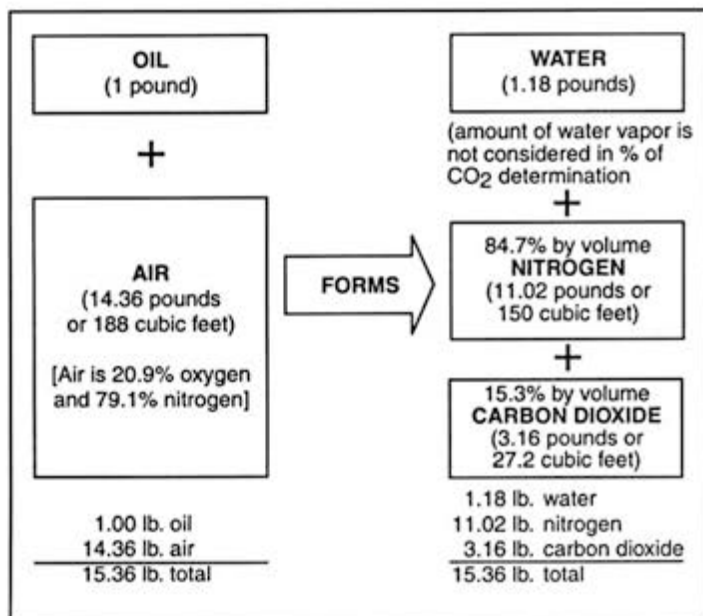
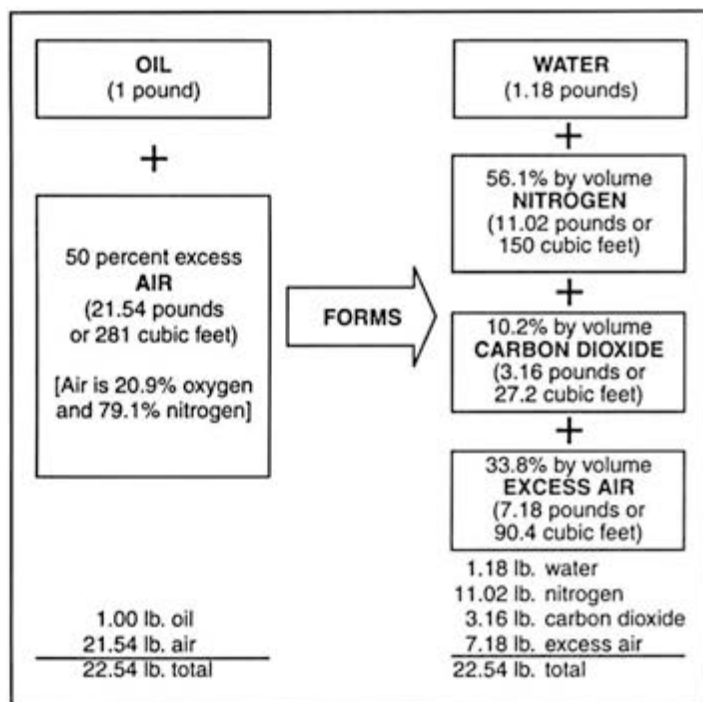

FIGURE 3 Amount by weight and volume of combustion products when 1 lb. of fuel oil is burned (0% excess air)
FIGURE 4 Amount by weight and volume of combustion products when 1 lb. of fuel oil is burned (50% excess air)
If exactly the right amount of air (no excess air) were supplied for complete combustion of the carbon and hydrogen in the fuel oil, the products of combustion would be as indicated in Figure 3. However, with typical oilheat equipment, it is usually not possible to get a perfect mixture in which all the carbon and hydrogen are supplied with the exactly correct quantity of oxygen. To insure that all the carbon and hydrogen come into contact with enough oxygen to burn completely, excess air must be supplied. The excess air is simply air over and above the theoretical requirement for the combustion of fuel oil. With excess air needed for combustion, reaction (1) becomes:
This excess air does not react during the combustion process, but enters the heating unit at room temperature and reduces the temperature of the combustion gases so less heat is available to be transferred to the distribution medium. As a result, excess air is a source of heat loss. By introducing 50% excess air, the situation shown in Figure 4 is created.
Compare this with Figure 3. Note that:
- ▼ The amount (weight) of H_2O , CO_2 , and N_2 formed in Figure 4 is the same as that in Figure 3.
- ▼ Percent by volume of CO_2 and N_2 in Figure 4 is less than is formed in Figure 3.
- ▼ Oxygen (as part of excess air) is a product in Figure 4 but not in Figure 3.
In Figure 4, since 20.9 percent of the excess air is oxygen, 7.1 percent of all the combustion gases is oxygen. You determine this by multiplying the percent excess air (33.8%) times that portion of excess air which is oxygen (.209). This gives approximately 7.1 percent oxygen.
Note that in Figure 4 the percentage of CO₂ or O₂ changed from Figure 3 as a result of excess air, therefore, we can use the percent CO₂ or O₂ in the flue as a measure of excess air or vice versa—as a general rule.